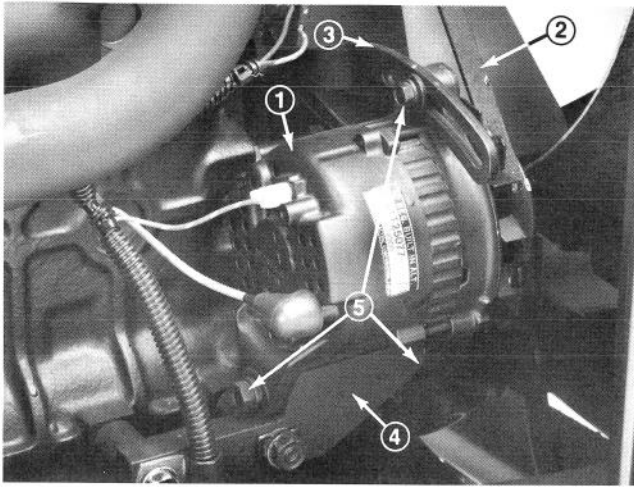

Figure 42
C. Loosen bolts (3) securing alternator to plate and mounting bracket (Fig. 42). Rotate alternator away from engine to increase tension and tighten bolts. Check belt tension after adjustment and re-adjust, if necessary.